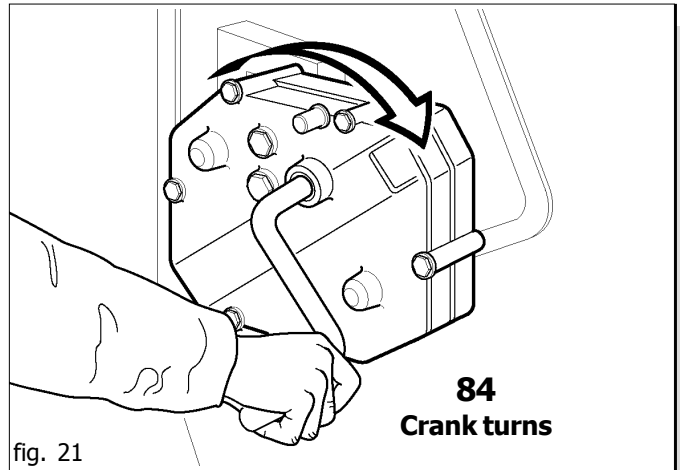

fig. 21
- 4) Insert the crank (Fig. 21) on the gearbox shaft and rotate clockwise.